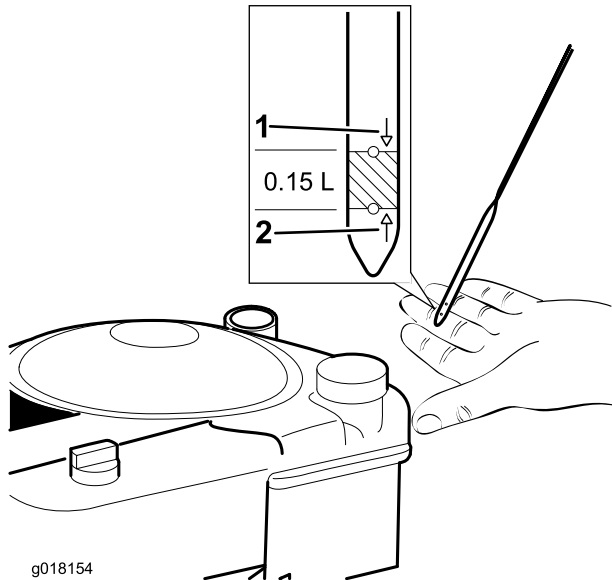

Figure 10
3. If the oil level is low, **slowly** pour oil into the oil-fill tube, wait 3 minutes, and check the oil level on the dipstick by wiping the dipstick clean and then inserting the dipstick into the tube (Figure 10).
4. Fill the engine with oil until the dipstick indicates that the engine oil level is correct as shown in Figure 10. If you overfill the engine with oil, remove the excess oil as directed in Checking the Engine Oil Level \(page 10\).